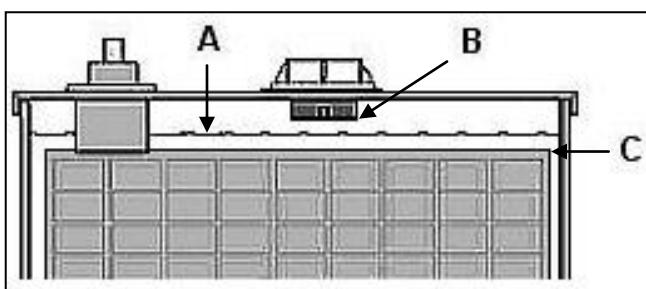

Figure 8-1
**ADDING WATER (See Figure 8-1)**
- Never allow the electrolyte level to fall below the top of the plates (A). If the plates are exposed, add only enough distilled water to cover the plates before charging.
- Do not overfill batteries. Do not fill the water level up into the well of the filler tube of the cell. Electrolyte expands and can overflow during charging (B). Water added to replace the spillage dilutes the electrolyte and reduces its specific gravity. Cells with lower specific gravity have lower charging capacity.
- Make sure the electrolyte covers the plates before charging (C). Fill cells to the markers only after batteries are charged.